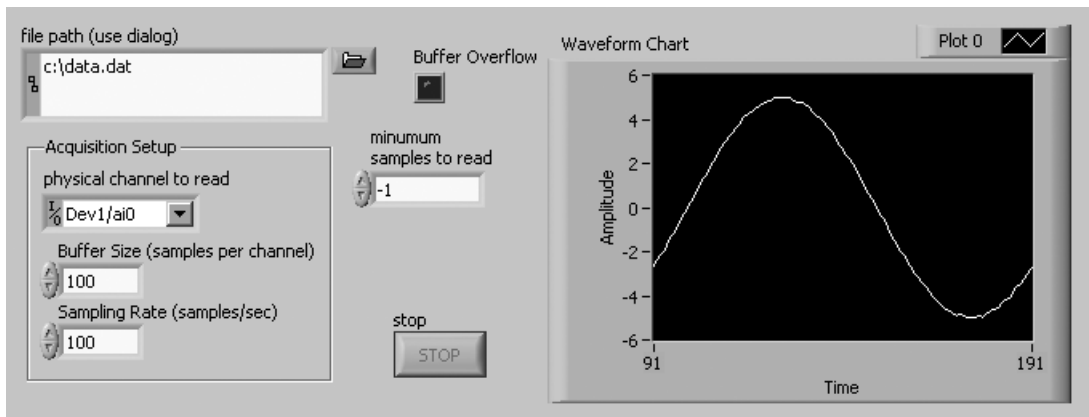

Figure 11.65
2. Modify the VI so that it looks like the front panel and block diagram in Figures 11.65 and 11.66.